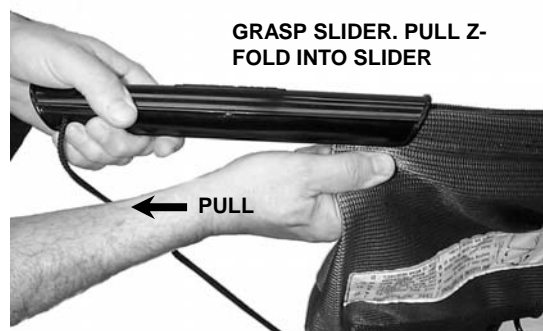

FIGURE 2.12
5. Grasp the edge of the Z-fold, and while holding the slider; pull the Z-fold fully into the slider. See Figure 2.12.